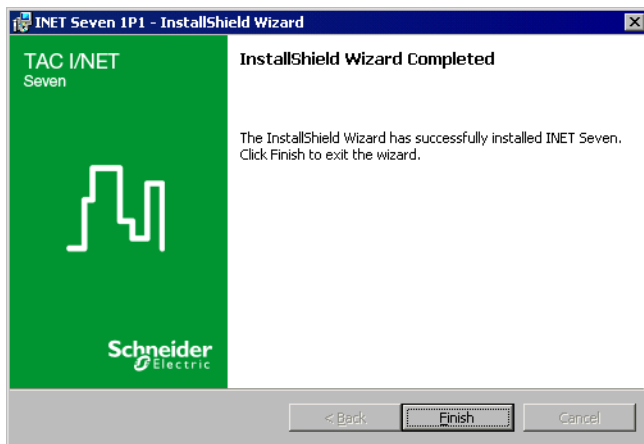

Figure 2-17. Finished Installing TAC I/NET Seven
20. Setup notifies you when the installation is complete (see Figure 2-17). Select **Finish** to close the Setup program.